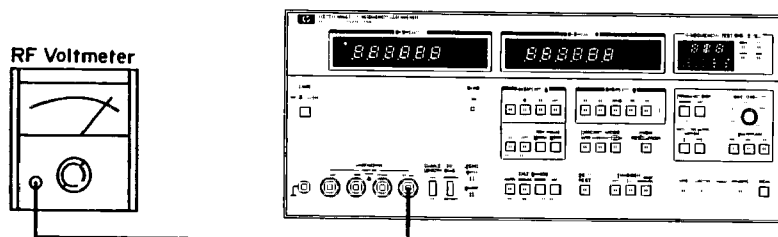

Figure 4-2. Test Signal Level Variable Range Test Setup.
1. Connect BNC to BNC cable to 4275A UNKNOWN H_{CUR} terminal and to RF voltmeter input as shown in Figure 4-2.